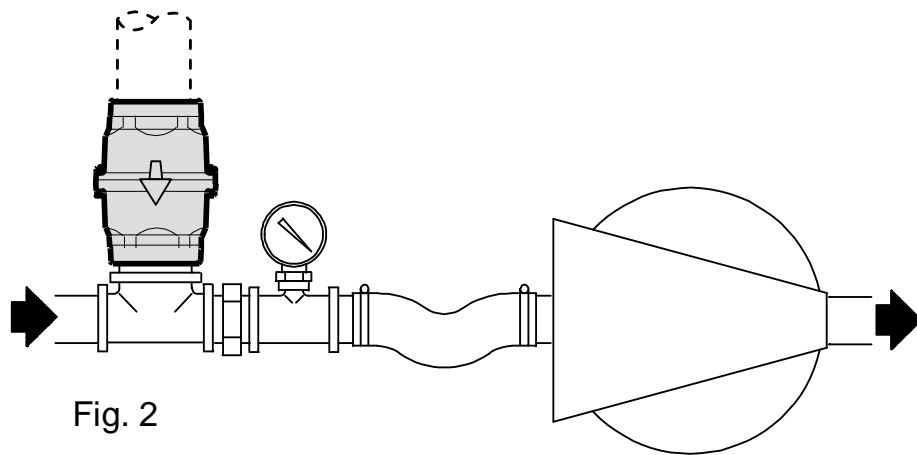

Fig. 2
- Position valve on the suction by-pass and connect a vacuum gage as close as possible to the exhauster inlet (Fig. 2).